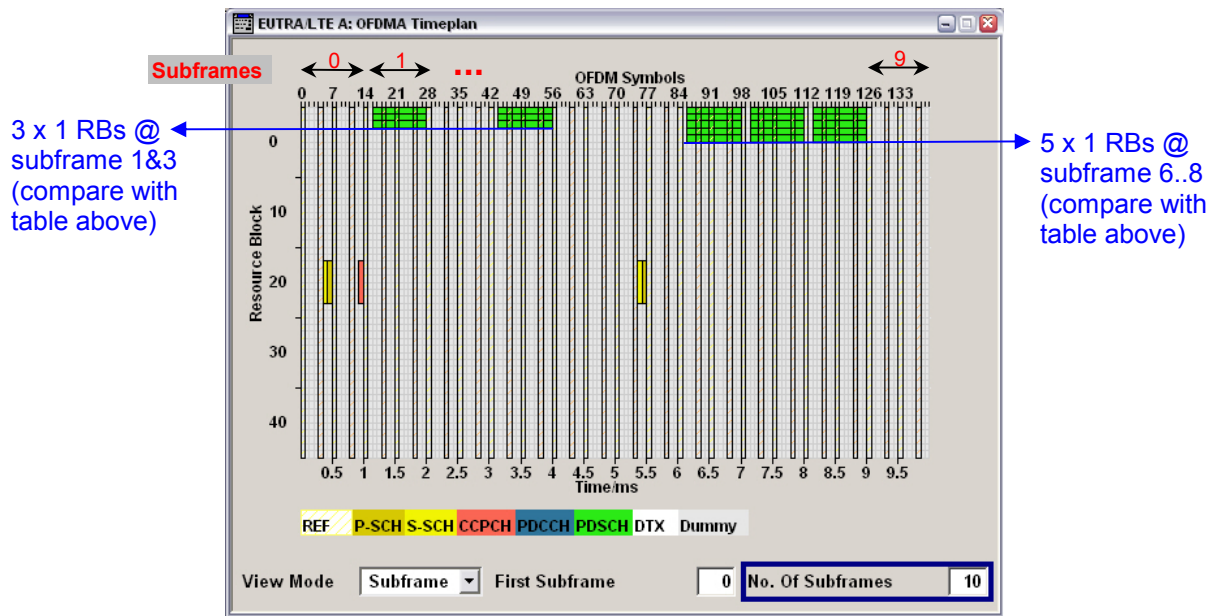

Figure 4-5 SMU EUTRA/LTE DL settings – Timeplan
- ①. Select the number of configurable subframes (1 .. 10)
- ②. Modify for each subframe (selected in 1) the cycle prefix and the number of used allocations
- ③. Take settings from the selected subframe (2) and copy to memory
- ④. Paste setting from memory to selected subframe (2)
- ⑤. Show timeplan (Figure 4-5) of configured signal
- ⑥. Configure each subframe (selected in 2) individually